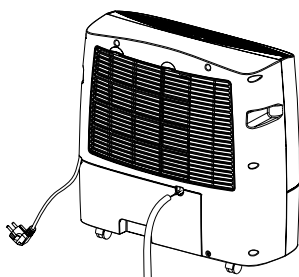

FIG.3
1. Connect the drain hole with a water tube of inner diameter 12mm. (FIG.3) * *Please note the water tube is not supplied with the unit.*